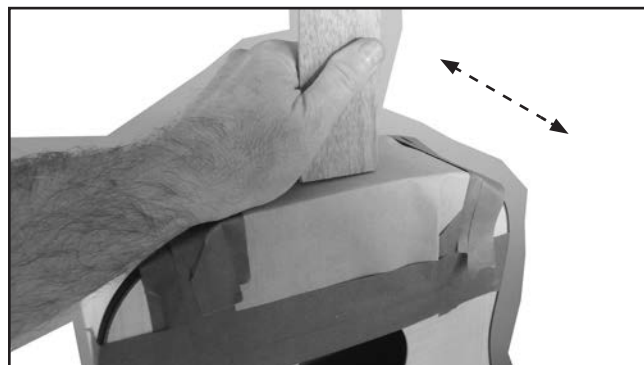

Figure 5. Sanding neck.
3. Start by gently sanding neck where it mates with body (see **Figure 5**).